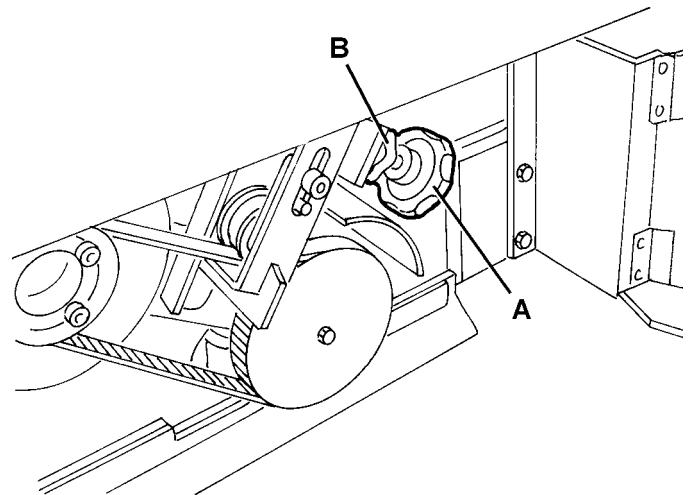

Figure 4
3. Remove the screw, then disengage the fastener (6).
4. Open the left door (5).
5. Loosen the locknut (B, Fig. 4).
6. Turn the knob (A) and consider that:
7. Tighten the locknut (B, Fig. 4).
10. Close the left door (5) and engage the fastener (6), then tighten the screw.